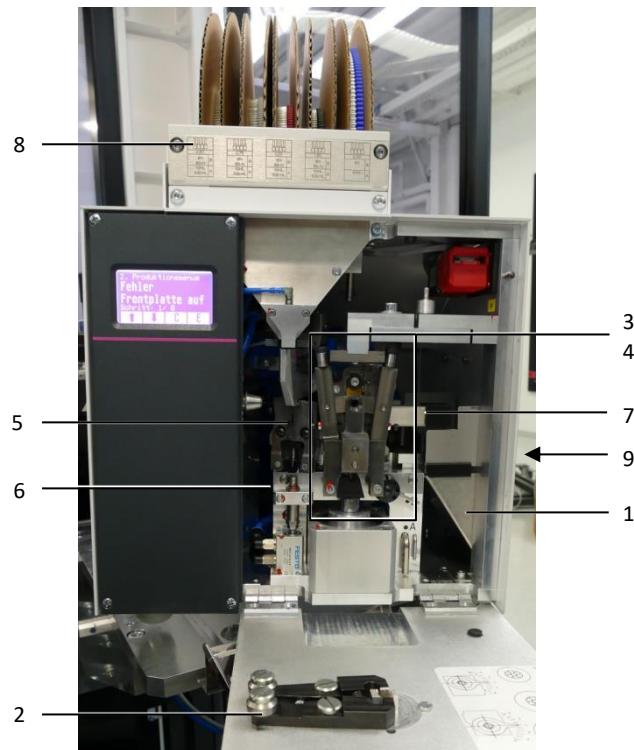

Fig. 21: Overview of the maintenance points
- Loosen the screws and remove the cover (fig. 21, item 8)